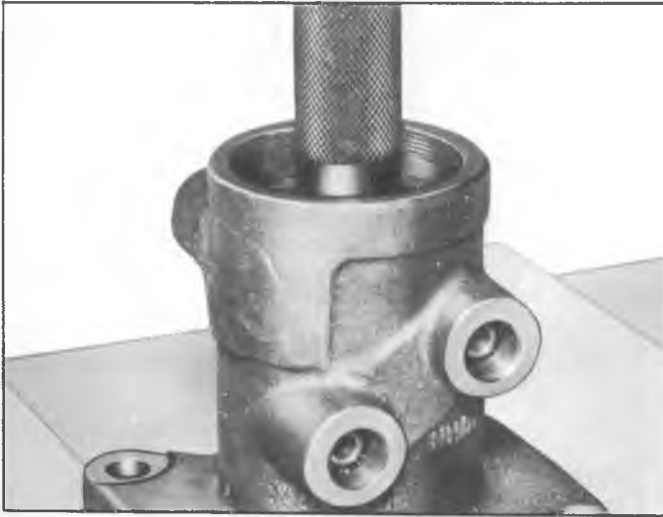

Fig. 31--Installing Top Cover Needle Bearing and Seal Using Tool J-8526-1
2. Install the new needle bearing, lubricated with Transmission Fluid, using Installer J-8526-1 and Handle J-7079-2 (fig. 31) Press against the stamped identification side of the bearing.